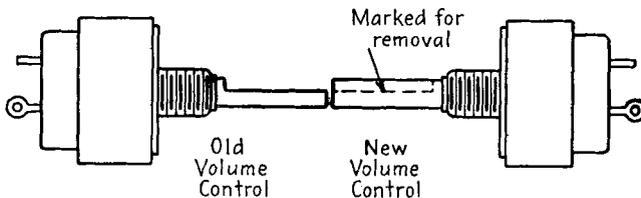

FIG. 11-13. Marking the volume-control shaft for a push-on knob.
- a. Measure against the original, as shown in Fig. 11-13, and indicate with a mark the amount of shaft to be removed.